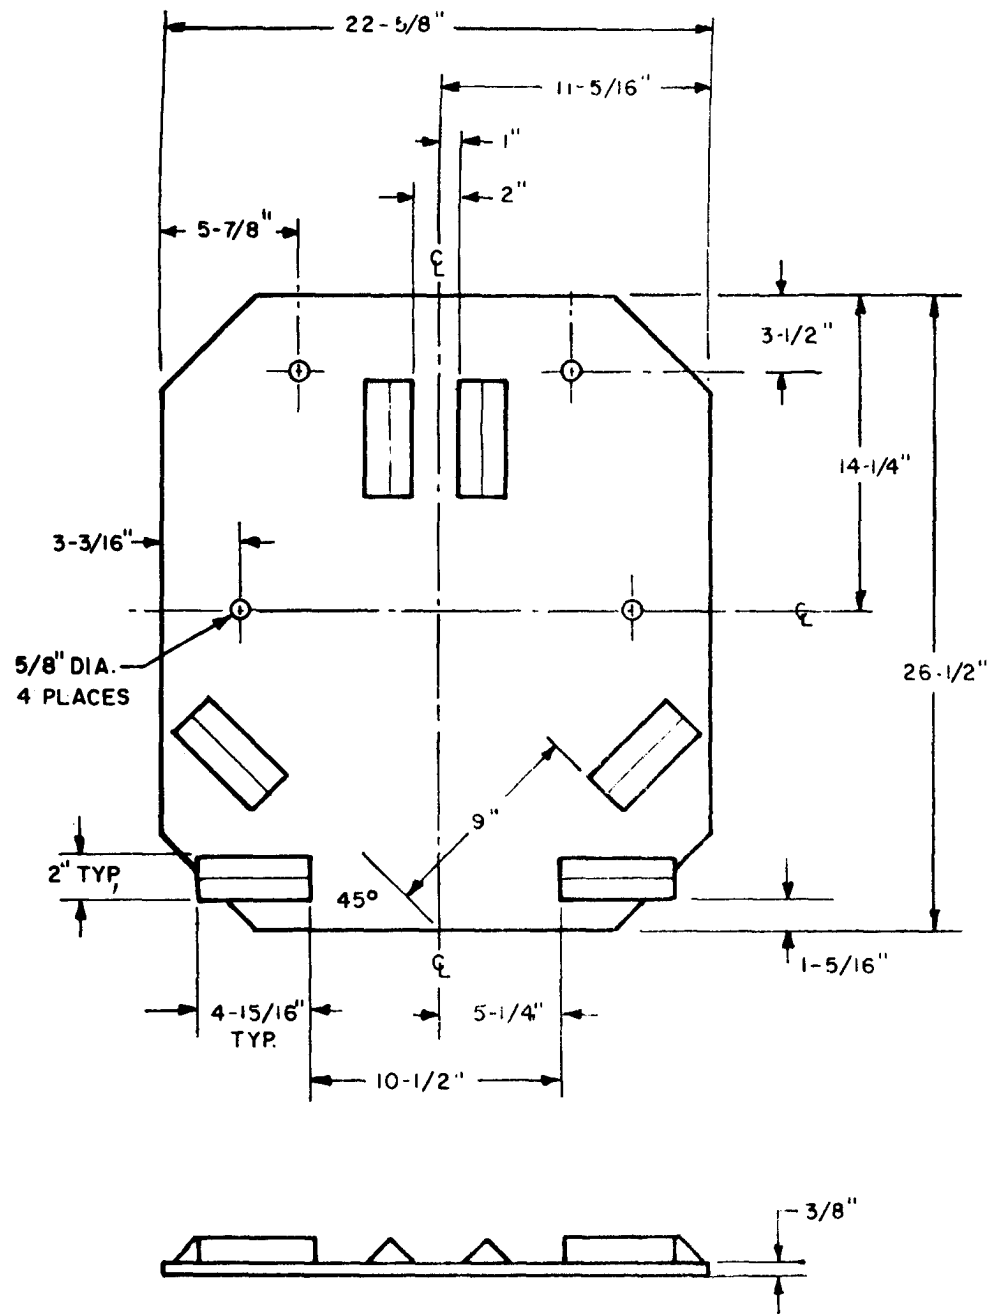

Figure 4-1. Shipping pallet.
a. Remove all foreign matter from tester and its accessories using dry cleaning solvent (item 1, table 1-1). Do not allow dry cleaning solvent to come in contact with electrical wiring.
b. A shipping pallet (figure 4-1) can be prepared and used for more stability within the shipping container.